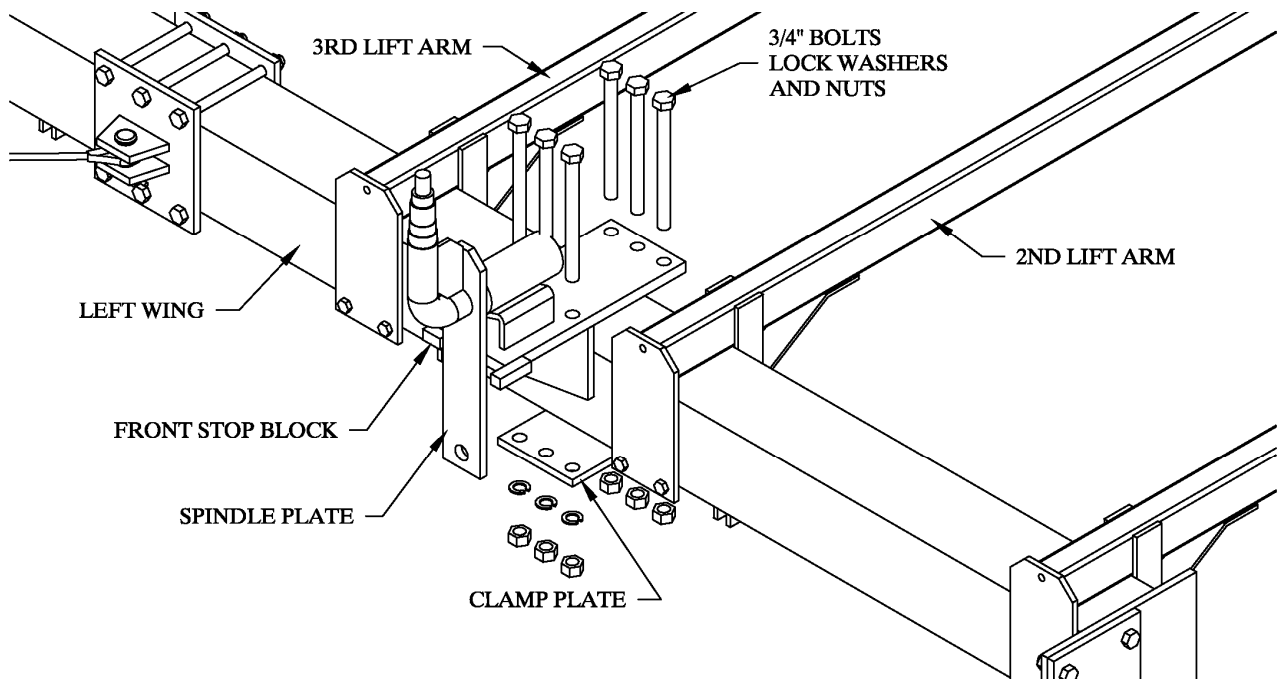
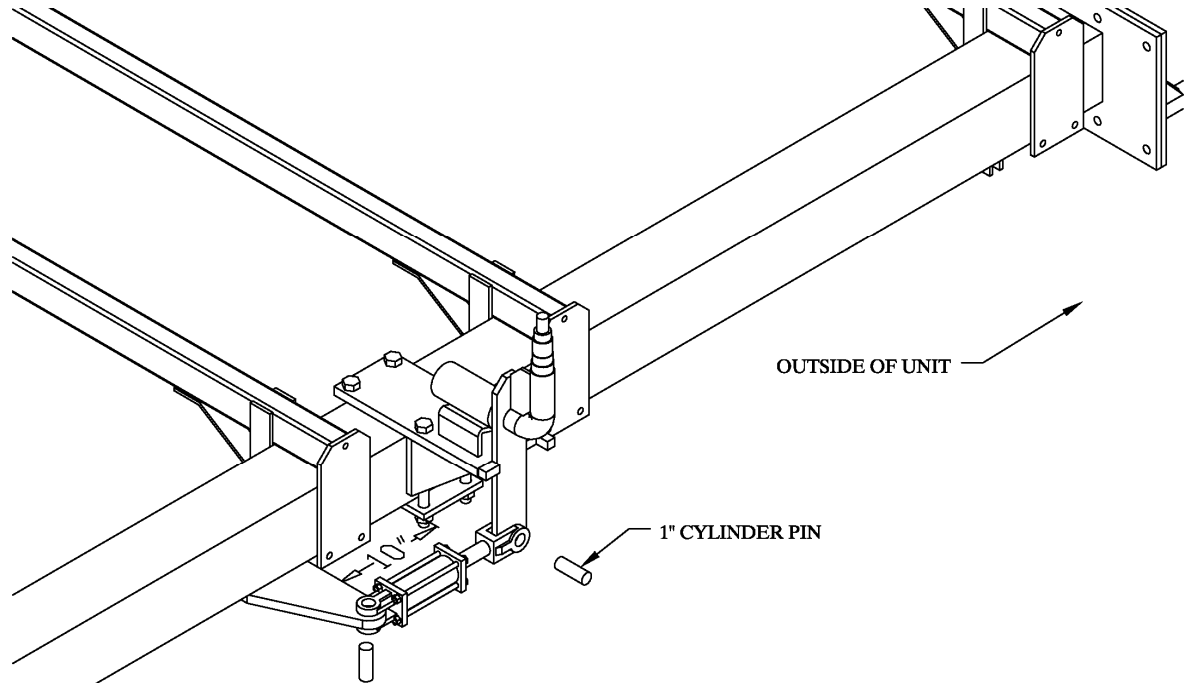

Figure 20
Figure 21
1. Attach the transport wheel axle assemblies to the wings between the 2nd and 3rd lift arms (counting from the field position wing wheel end of the wings). Use 3/4" x 8 1/2" bolts, lock washers, and hex nuts. If installing the Hydraulic Transport option, be sure to mount it 10" from the flat edge of the hydraulic transport cylinder post as shown in Figure 21. Note that there are right and left hand transport axle assemblies. When the spindle is orientated in the vertical direction (field position) as shown in Figure 20, the spindle plate should be in contact with the front stop block.
2. For the Hydraulic Transport option, attach the hydraulic cylinders with the open ports facing down as shown. Refer to Figure 21. Connect the rod end of the cylinder to the transport wing wheel axle and the base end of the cylinder to the fixed cylinder post. Note: When the cylinder is fully retracted the transport wing wheel should be in line with all other transport wheels so that the unit can be pulled straight.